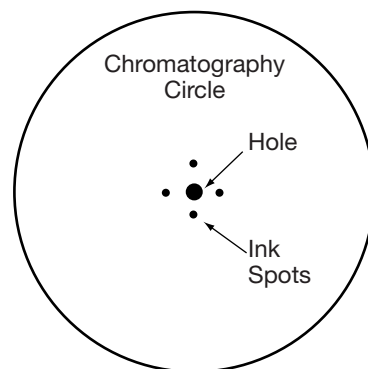

Figure 1
2. Using a black (or dark-colored) water-soluble marker, draw four to six small dots in a circular or random pattern around the center hole in the filter paper. *Note:* You may wish to use two different markers and alternate the dots in a circle around the center hole (see Figure 1).